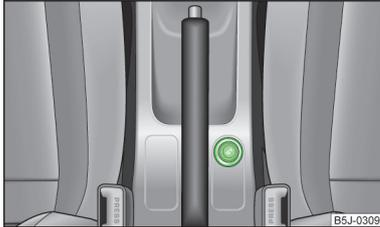
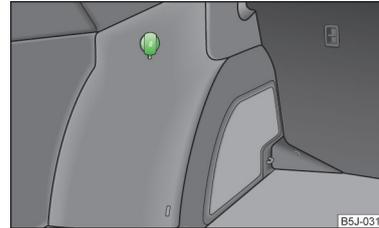

Fig. 80
Fig. 81
- Press in the button in the cigarette lighter » Fig. 80.
The 12-volt electrical outlet (hereinafter referred to only as a socket) is located in the front center console » Fig. 80 on page 79 and in the luggage compartment » Fig. 81.